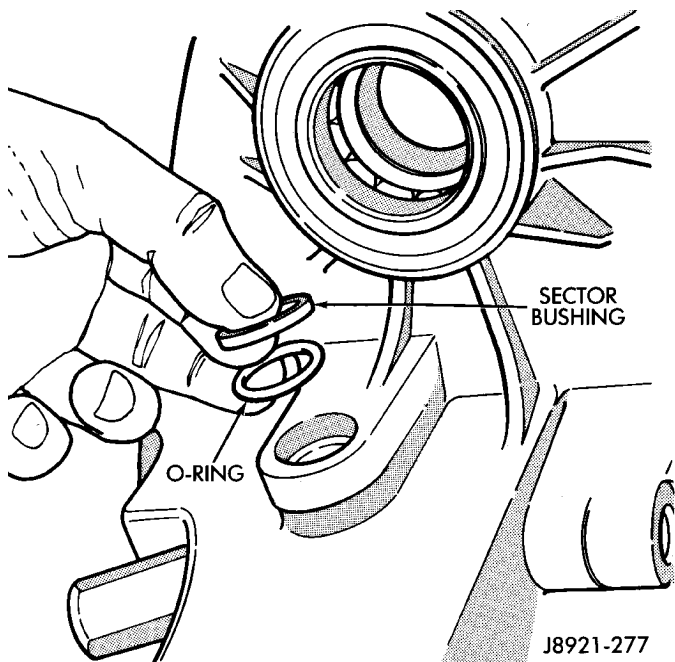

Fig. 68 Sector O-Ring And Bushing Installation
(1) Install new sector shaft O-ring and bushing (Fig. 68).